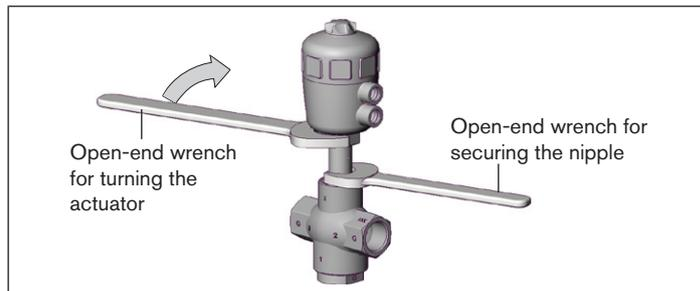

Fig. 2: Turning with open-end wrench
- ▶ Turn the actuator **in the specified sense of direction** only (see “Fig. 2”).
- Place a suitable open-end wrench on the hexagon of the actuator (see “Fig. 2”).